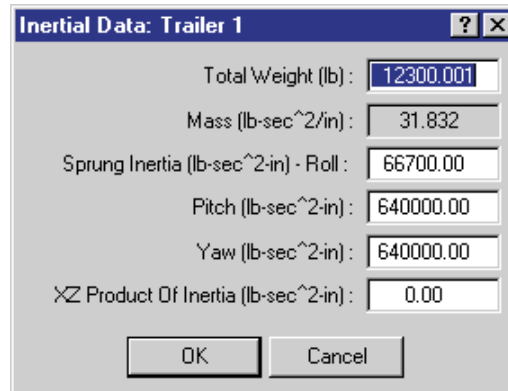

Figure 5-8 Vehicle Inertias dialog, used for editing the current weight and roll and pitch and yaw rotational inertias.
- Click on the CG and choose *Inertias*. The *Inertias* dialog is displayed (see Figure 5-8), and we're ready to change the weight.
- Click on the CG and choose *Inertias*. The Inertias dialog is displayed, as shown in Figure 5-8, and we're ready to change the weight.